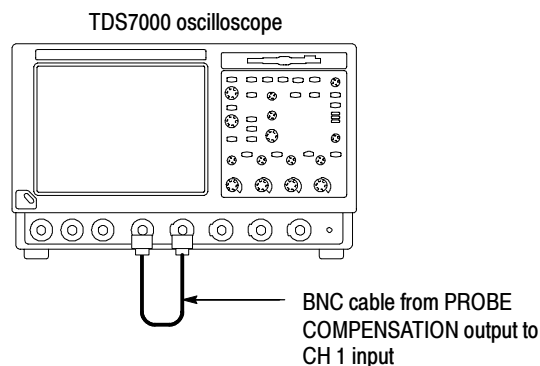

Figure 1-7: Setup for time base test
2. *Hook up the signal source:* Connect the BNC cable from the probe compensation output to the CH 1 input as shown in Figure 1-7.